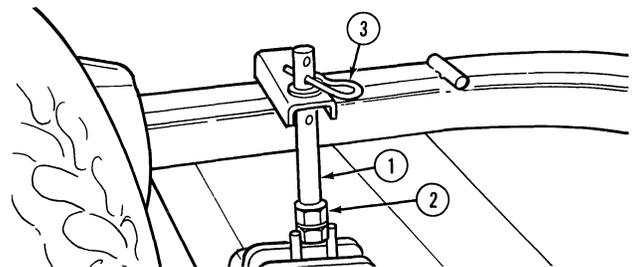

Figure 7
6. Select a suitable hairpin clip (3), Figure 7, position and adjust the length of the lift link rods (1), so the rear gauge wheels are 1/8 inch off the ground. Jam the 5/8" nut (2), against the rod end.